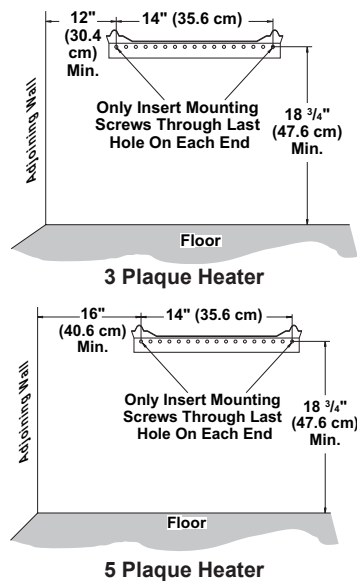

Figure 8 - Mounting Bracket Clearances
⚠ WARNING: Maintain minimum clearances shown in Figure 8. If you can, provide greater clearances from floor and joining wall.
2. Mark screw locations on wall (see Figure 8). *Note:* Only mark last hole on each end of mounting bracket. Insert mounting screws through these holes only.